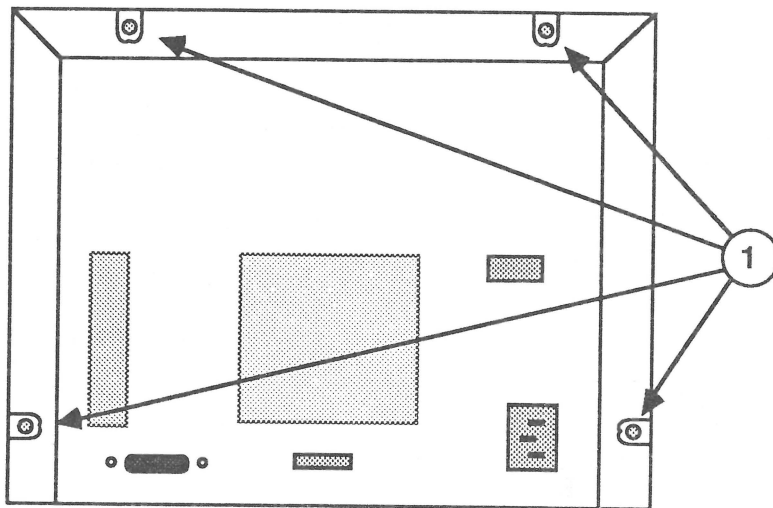

FIGURE 1
3. Remove the four screws (Figure 1, #1) from the rear cover. Lift the rear cover off the CRT bezel.
2. Replace the four Phillips screws (Figure 1, #1).